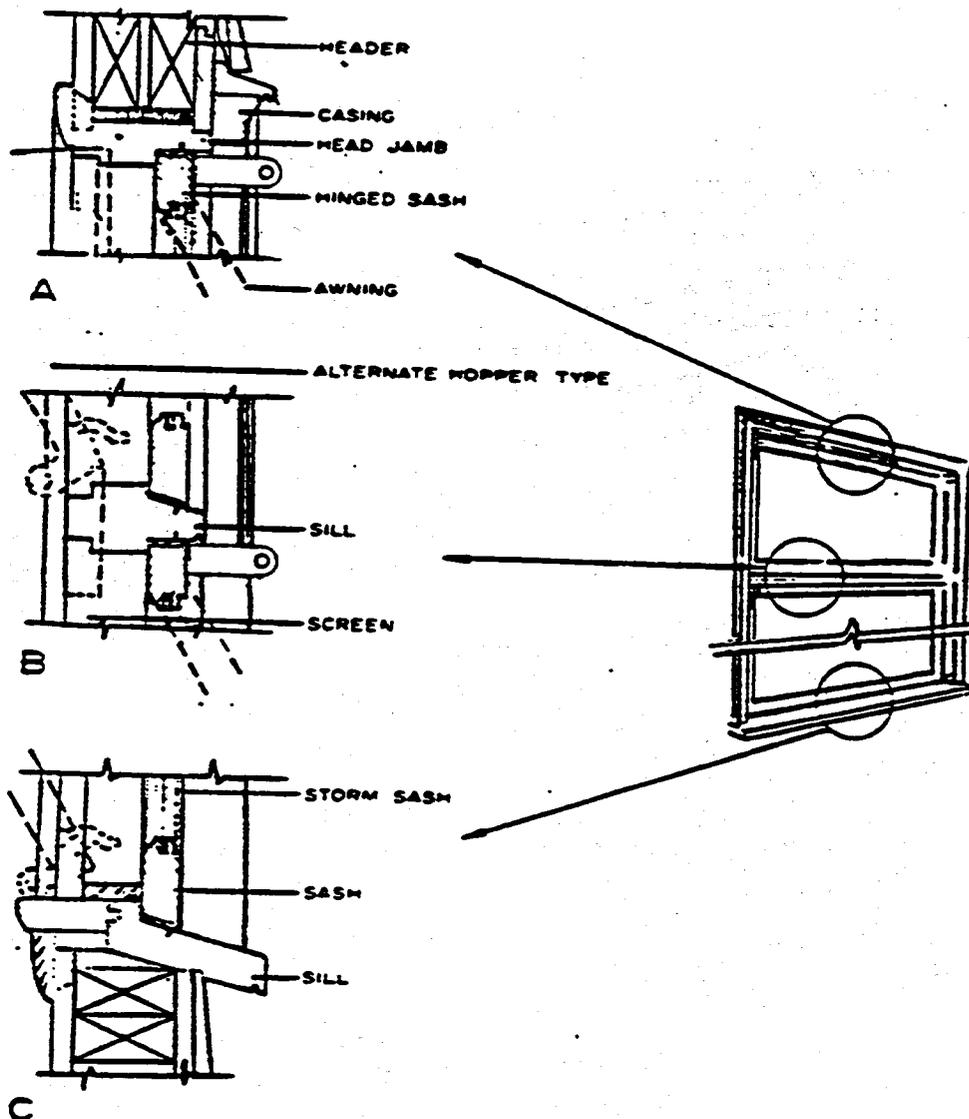

Fig 3-31. Awning window details.
o Awning windows. An awning window unit consists of a frame in which one or more operative sashes are installed. The sashes of the awning type window are made to swing outward at the bottom. A similar unit, called the hopper type, is one in which the top of the sash swings inward. Figure 3-31 shows an awning type window with three (3) details and a typical combination of several awning windows in one unit.
View A of figure 3-31 shows a cross section view of the head. View B is a cross section view of the horizontal mullion between the top and bottom sash. View C is a cross section view of the sill. The phantom lines in views A, B, and C represent the swing of the hopper type window.